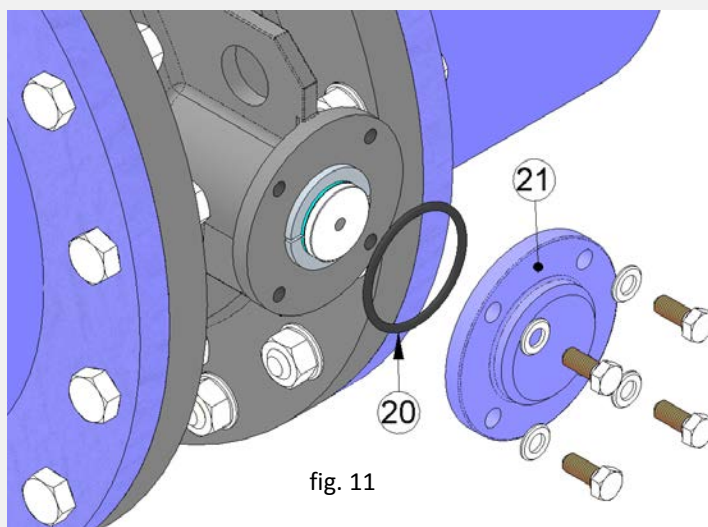

fig. 11
9. Bolt the solid cover (21) diametrically.
10. Pressurise the valve in the line and check there are no leakages through the solid cover (21).
**Note:** The numbers in brackets refer to the image in figure 11.